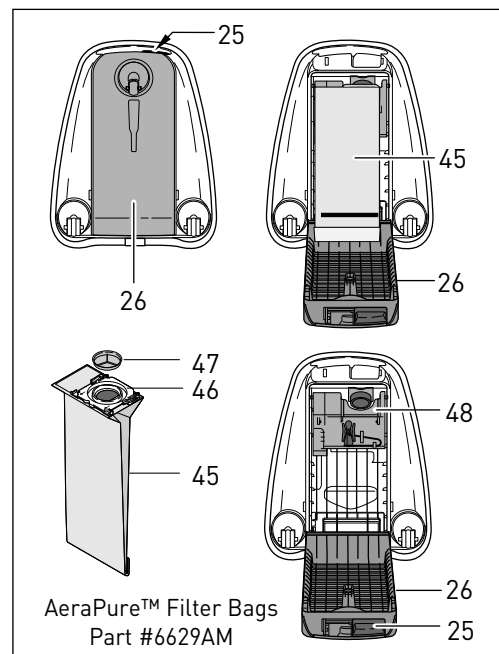

Figure 17
Changing the Filter Bag - Figure 17
To change the filter bag (45), set the canister upright (as shown in figure 17), press the cover release catch (25) and lower the filter bag cover (26). Grasp the green filter bag sealing plate (46), slide the plate from the holder (48) and push the filter bag cap (47) on to seal the bag. Slide the sealing plate (46) of a new bag into the bag holder slots (48) and push it in firmly until it locks into place. Close the cover, making sure it snaps shut completely. You may find it convenient to store the bag cap inside the filter bag housing below the filter bag. Do not re-use the filter bags. Note: the nature of the contents of the filter bag will affect the point at which it needs changing. Fine dust may require an earlier change even though the bag is not full. Fluff or hair allows air to pass through easily, so the filter bag may overfill before the amber "bag full" light illuminates.
Changing the Pre-motor Microfilter - Figures 17 & 19
After 10 to 20 bags have been used, change the pre-motor microfilter (52). To remove the microfilter, set the canister upright (as shown in figure 17). Press the cover release catch (25) and lower the filter bag cover (26). Remove the filter bag, then remove the cover by sliding it up and out of the grooves (53). Pull the old filter out (52) and slide the new filter into the same position. Replace the filter bag, then re-insert the cover by fitting the tabs into the grooves (53) on both sides and sliding it in and down. Push the cover closed, making sure it snaps shut completely.
Remove hose (10) from vacuum cleaner (see figure 22), open the filter bag cover and remove the filter bag. (figure 17, page 12). Clean out entrance to bag (58).